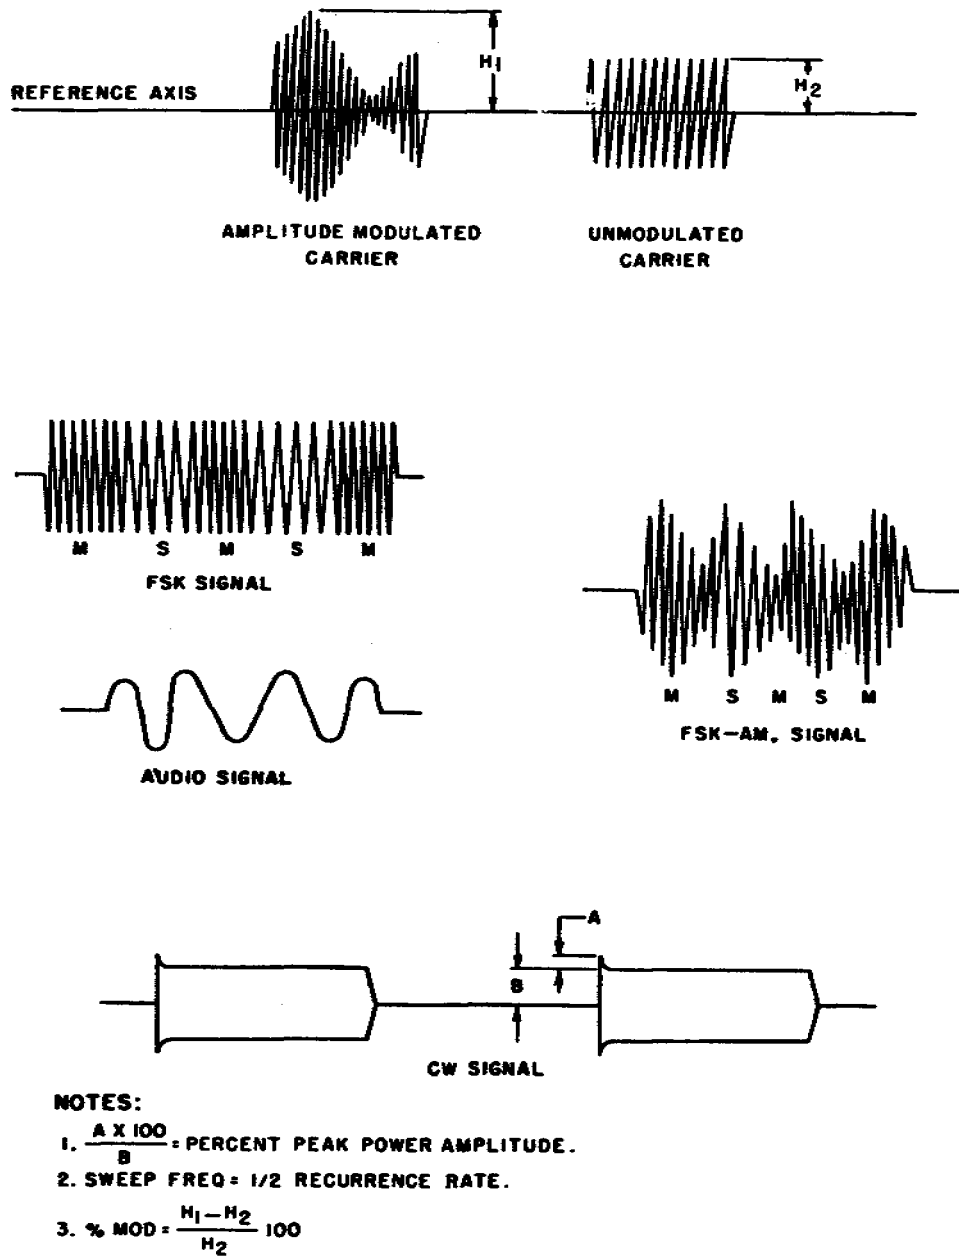

Figure 96. Waveforms.
*f.* Adjust the 600 OHM LINE GAIN control for 100 percent modulation, as observed on the oscilloscope (fig. 96). The EXCITATION meter should read 8 ma (minimum) for P A GRID X2 and 70 ma ( maximum) or 20 ma (minimum) for INT AMP PLATE X10.
(fig. 96)
- (1) With the audio oscillator connected for 600-ohm line operation (CARBON MIKE GAIN control turned down), adjust it for a 1-kc audio signal.
- (2) Adjust the 600 OHM LINE GAIN control for 40 percent modulation. This is done by observing the modulated wave on the oscilloscope for a height of 1.4 times the height of the unmodulated wave. Refer to note 3 on figure 96 for use of the modulation formula.
- (3) While varying the input signal frequency, measure the input power to obtain 40 percent modulation. The input power should have the following values for the given frequencies:
- b. Apply FSK signals (fig. 96) to the FSK input receptacle (J16) at the following frequencies and control settings. Note the output power.